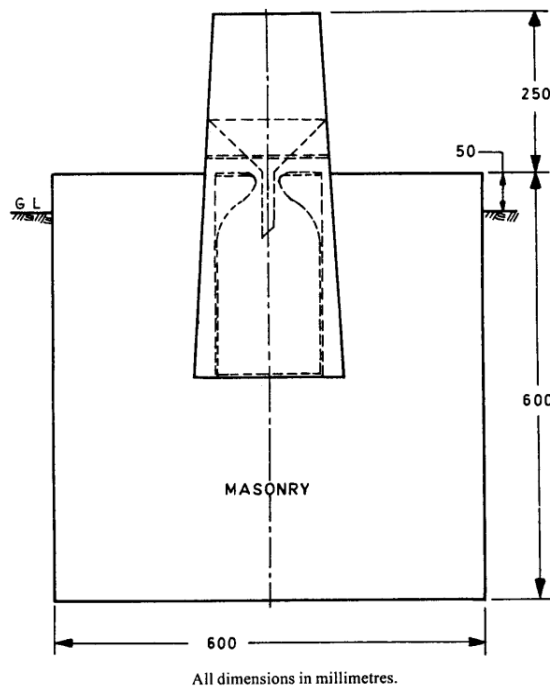
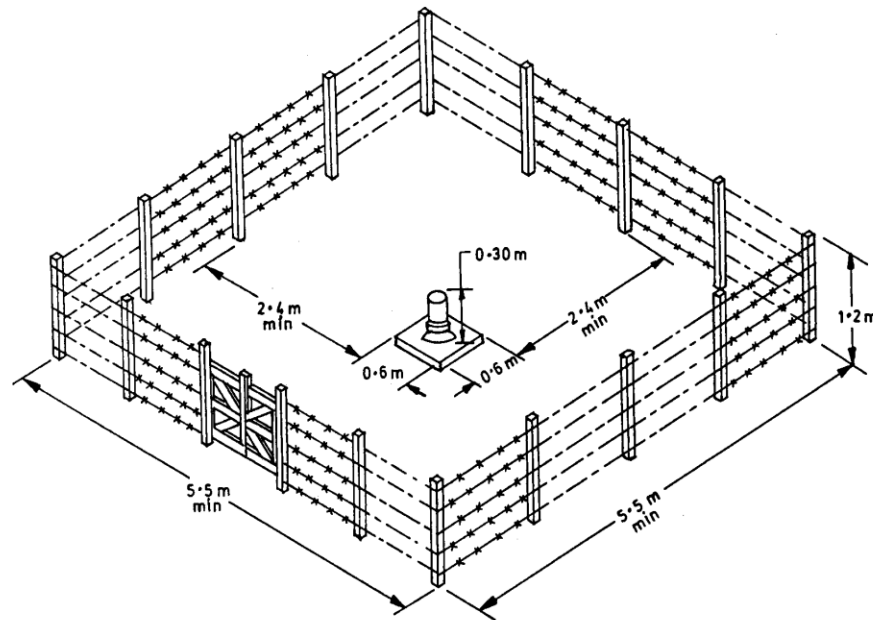

Figure 1: Installation of Rain gauge (IS 4986:2002)
Figure 2: Rain gauge installed within fence (IS 4986:2002)
- 4.1 The rain gauge shall be protected from being damaged (particularly by stray cattle) by erecting a fence around it as shown in Fig. 2. This may be made of any suitable material. The fence shall be such that the top of the fence is not higher than half the distance of the fence from the gauge.
1. whether the site conditions confirm to Fig. 1 and Fig. 2